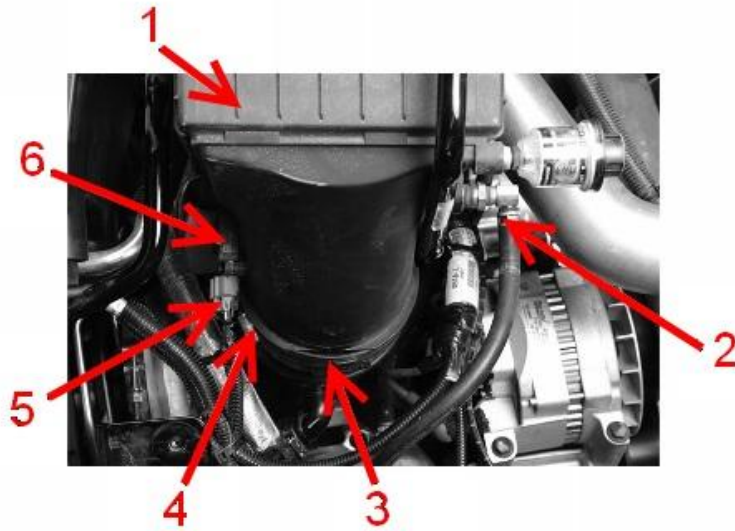

Figure 27: MAF Sensor and Air Compressor Inlet Hose
33. Install air box outlet into LP turbocharger inlet elbow duct (**Figure 27**, Item 3) and torque clamp (**Figure 27**, Item 4).
34. Connect air compressor inlet hose (**Figure 27**, Item 2) to air box (**Figure 27**, Item 1).
35. Connect MAF sensor connector (**Figure 27**, Item 5) to MAF sensor (**Figure 27**, Item 6).